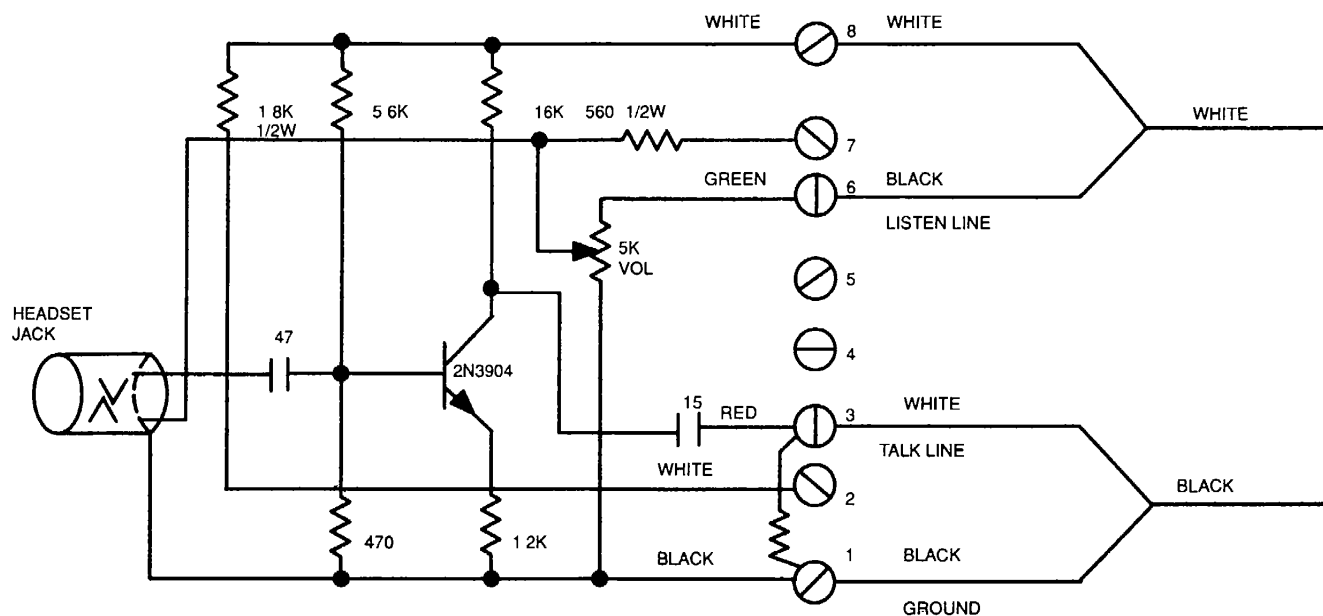

Figure 4-10 . Schematic Diagram, Model M3141, Headset Station
- a. With 24 Vdc circuit breaker 3P14 closed (ON), check that power amplifier is properly operating per telephone power control module and power amplifier operation.
- e. Disconnect and tag wires from power amplifier terminals 1, 3, 6, and 8. Tag and disconnect wires from headset terminals 1, 3, 6, and 8 (see Figure 4-10).
- c. Tag and disconnect wires from headset station (see Figure 4-10).